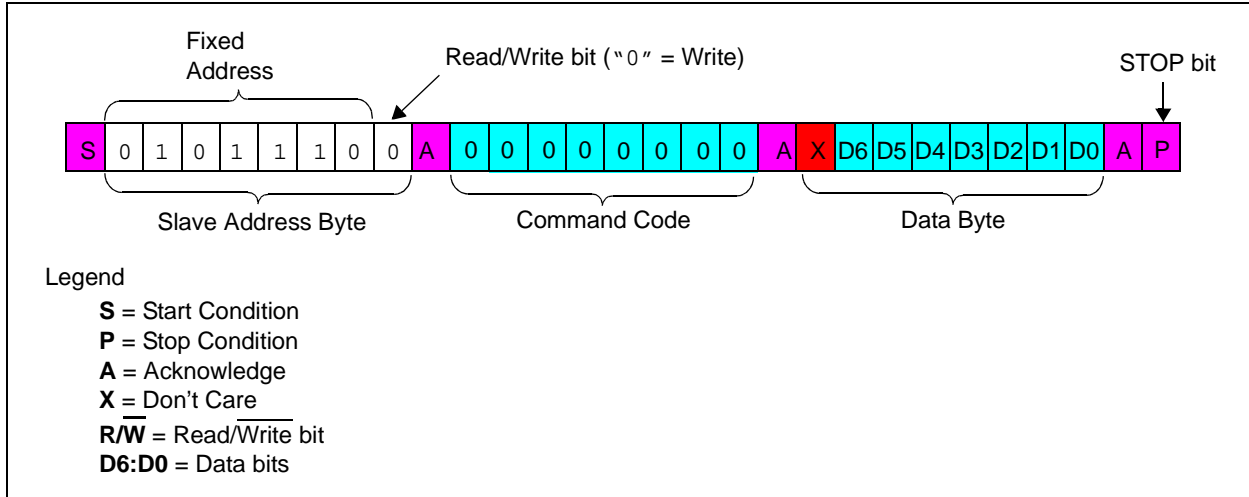

FIGURE 5-11: I2C Single Byte Write Command Format.
Data bytes may be written after each Acknowledge. The command is terminated once a Stop (P) condition occurs. Refer to Figure 5-11 for the single byte write sequence and Figure 5-12 for the generic (multi-byte) write sequence. For a single byte write, the master sends a STOP or RESTART condition after the 1st data byte is sent.